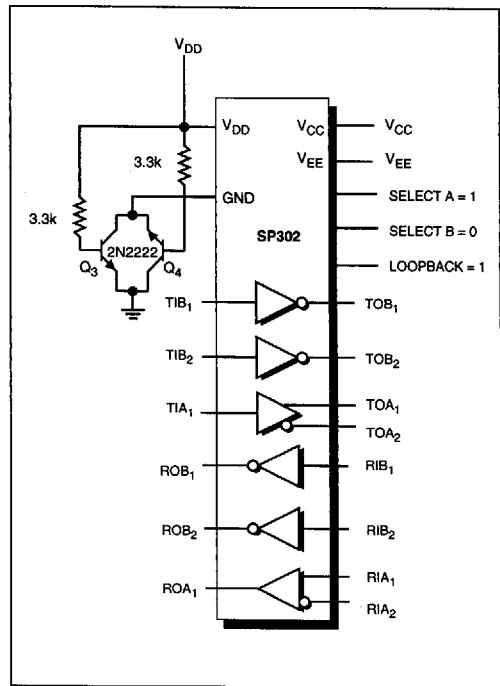

Figure 2. Typical Circuit
which means that to operate normally, the difference between the voltages at the inputs cannot exceed $\pm 15V$. The common mode voltage is specified as $\pm 7V$. This identifies the midpoint of the range about which the differential input must lie so that the receiver can detect a change of state. Within this $\pm 7V$ range, the receivers will recognize a change in state with a $\pm 200mV$ differential threshold voltage. Since the RS-232 and RS-422 inputs are shared, all receiver inputs are protected to $\pm 30V$ to guard against inadvertently applying an RS-232 signal to an input that is configured for RS-422. *Figure 2* shows a typical circuit for the **SP301/302**. In this case the **SP302** is shown configured for one (1) duplex RS-422 and two (2) duplex RS-232 communication paths.